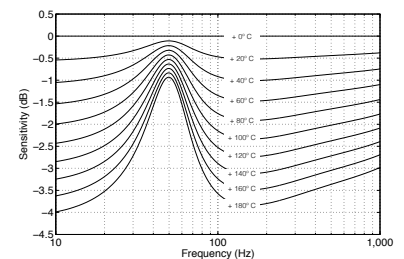
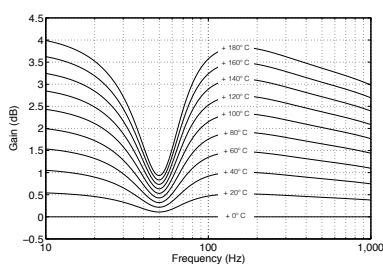

Figure 20.4: Example of the sensitivity of a woofer vs. the change in temperature of its voice coil.
Figure 20.5: Magnitude responses of the compensating filter for a woofer vs. the temperature of its voice coil.
The total result is shown for various temperature differences in Figure 20.4.
Interestingly, everything I said above is true for every moving coil loudspeaker. So, if you're the kind of person who believes that the only "proper" loudspeaker is one where you have nothing but a loudspeaker driver (in a cabinet of any kind, or not) and an amplifier - and no active filtering, then you'll have to live with the kind of unpredictable behaviour that you see above. However, since a BeoLab 50 "knows" the temperature of the voice coil of its loudspeaker drivers, and since it has been programmed with the curves like the one shown in Figure 20.4, we can actively linearise its response, making it much more predictable.
In essence all we need to do is to take Figure 20.4, flip it upside down and make a filter that "undoes" the effect of temperature on the loudspeaker's response. For example, if the woofer's voice coil gets 160°C above room temperature (where we originally measured it), it drops 3.2 dB at 20 Hz, the BeoLab 50 knows this and adds 3.2 dB at 20 Hz. In order to do this, the processing of the BeoLab 50 includes a set of filters (one for each driver) whose response varies in time with the temperatures of the the drivers. The temperature-dependent filters for the front woofer are shown in Figure 20.5.
- This particular filter shown in Figure 20.5 should only be applied to the appropriate loudspeaker driver. The other woofers and the other drivers have different behaviours and should be processed with their own correction curves. In other words, this filtering can only be done because the BeoLab 50 is an active loudspeaker with independent filtering for each of the 18 loudspeaker drivers.